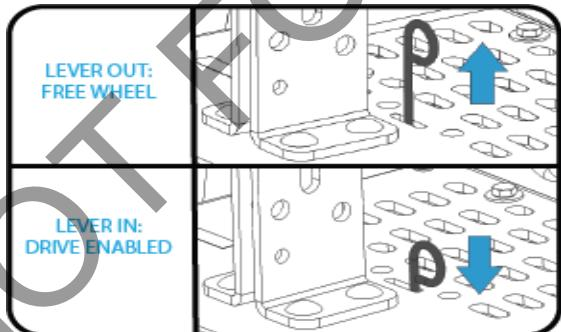

Fig. 6
- Set sod cutter to free wheel as shown in *Fig. 6* (see Instruction Labels on page 4 of manual)
Free Wheel Lever: Located on top of machine next to the height adjust. Pull the lever out to free wheel and push it in to allow the drive to be engaged. (See *Fig. 6*)